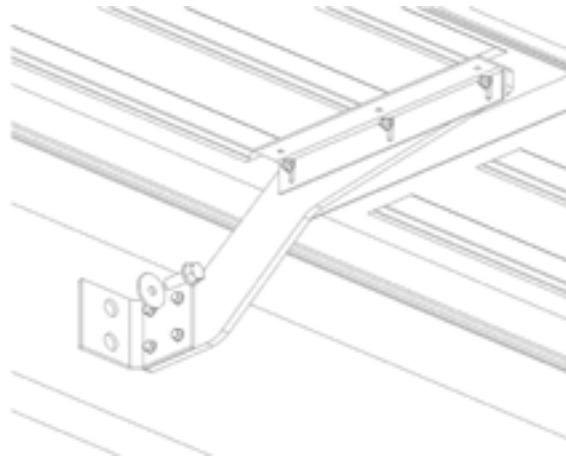

Figure 3
- B. Try to use the center bracket to attach the two fenders together using the 5/16" x 1-1/4" supplied bolts. If the center bracket does not line up correctly you can bolt the two pieces together and place the center bracket as close to the center of fenders as possible. Figure 3 shows a typical center bracket installation. Try and use existing holes to mount center bracket to truck frame.